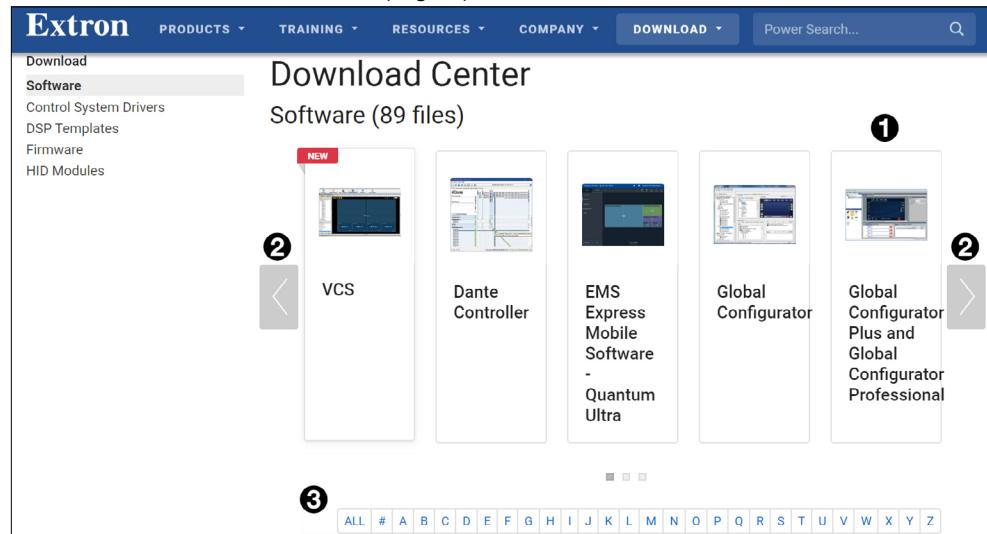

Figure 17. Selecting Software to Download
3. The software may be shown in the panels at the top of the page. Figure 17 (1) shows Global Configurator Plus and Professional. You may need to use the left (<) or right (>) arrows (2) to find the software. If the software is still not shown, click on the initial letter of the program in the alphabet menu (3).
Clicking on the initial letter of the software product (see figure 17, ③, on the previous page) generates a list of software products with that initial letter.